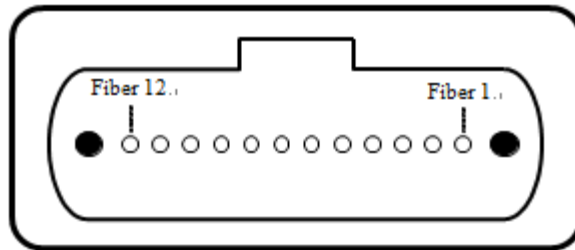

Figure4. Outside View of the QSFP28 Module MPO
- VccRx, Vcc1 and VccTx are the receiver and transmitter power suppliers and shall be applied concurrently. Recommended host board power supply filtering is shown in Figure 4 below. Vcc Rx, Vcc1 and Vcc Tx may be internally connected within the QSFP28 transceiver module in any combination. The connector pins are each rated for a maximum current of 1000mA.
Figure 4 shows the orientation of the multi-mode fiber facets of the optical connector. Table 1 provides the lane assignment.